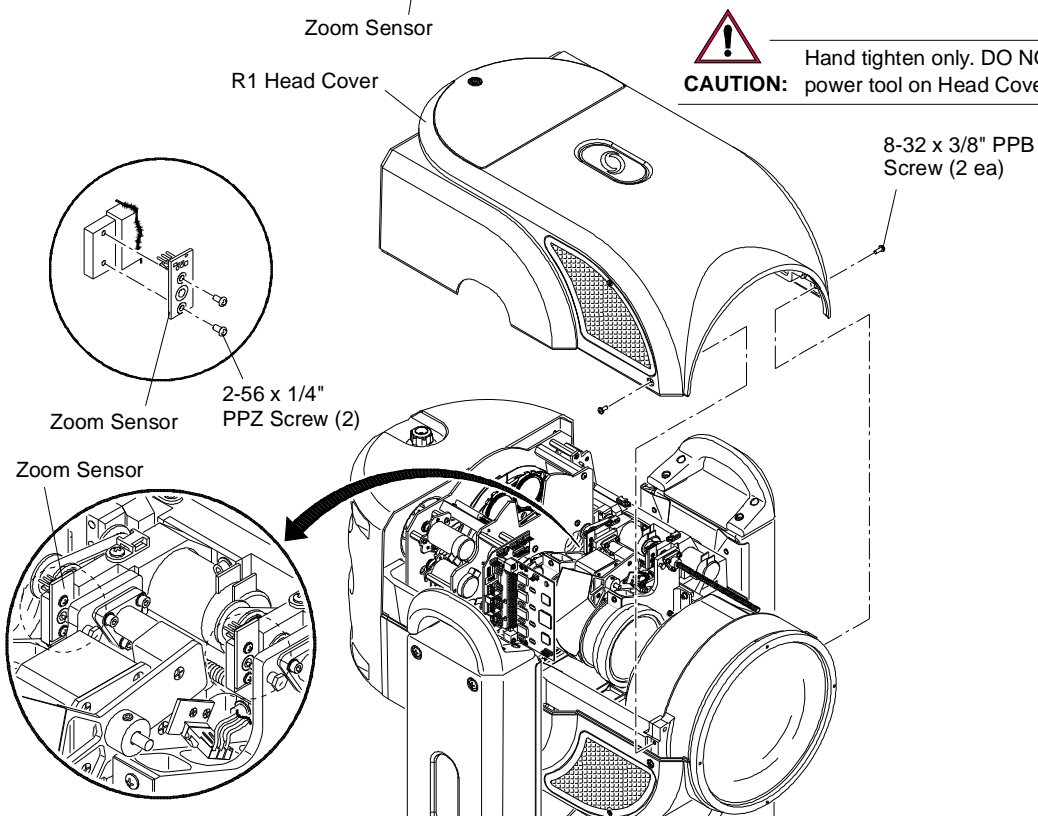

Figure 3-25: Removing Zoom Sensors 1 & 3
- At required Zoom Sensor, disconnect cable from header (**Figure 3-25**).